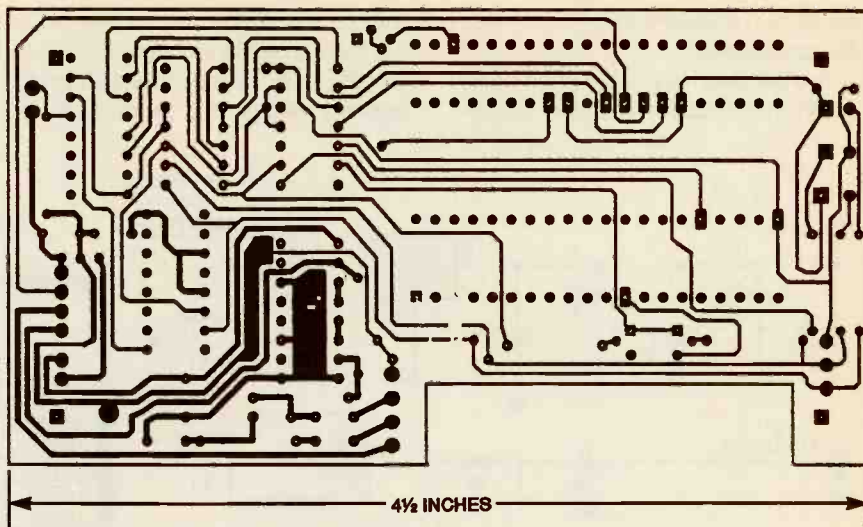

Fig 2. The counter is built on a compact double-sided PC-board. The artwork for the foil side of the board is shown here.
Fig. 2. As this schematic shows, the ADXL50 accelerometer, U2, interfaces with an A/D converter, U3, to drive a 3½-digit LCD module, DISP1. Because that module displays any number from -19.99 to +19.99, the circuit is designed to measure g's within that range.
Use Figs. 2, 7, and 8 as guides when making the connections. Be sure to allow sufficient wire length to accommodate the final position of the boards. Check the wiring between the two boards carefully; an error there will result in garbled display digits, or no display at all.
**Construction.** One of the design parameters for the frequency counter was portability; consequently, the whole circuit fits on a small double-sided board that measures just  $4\frac{1}{2} \times 2\frac{3}{8}$  inches. The artwork for the solder (foil) side of the board is shown in Fig. 2, while the component side is shown in Fig. 3. The board fits into a Radio Shack 270-222 project box, or a similar enclosure.